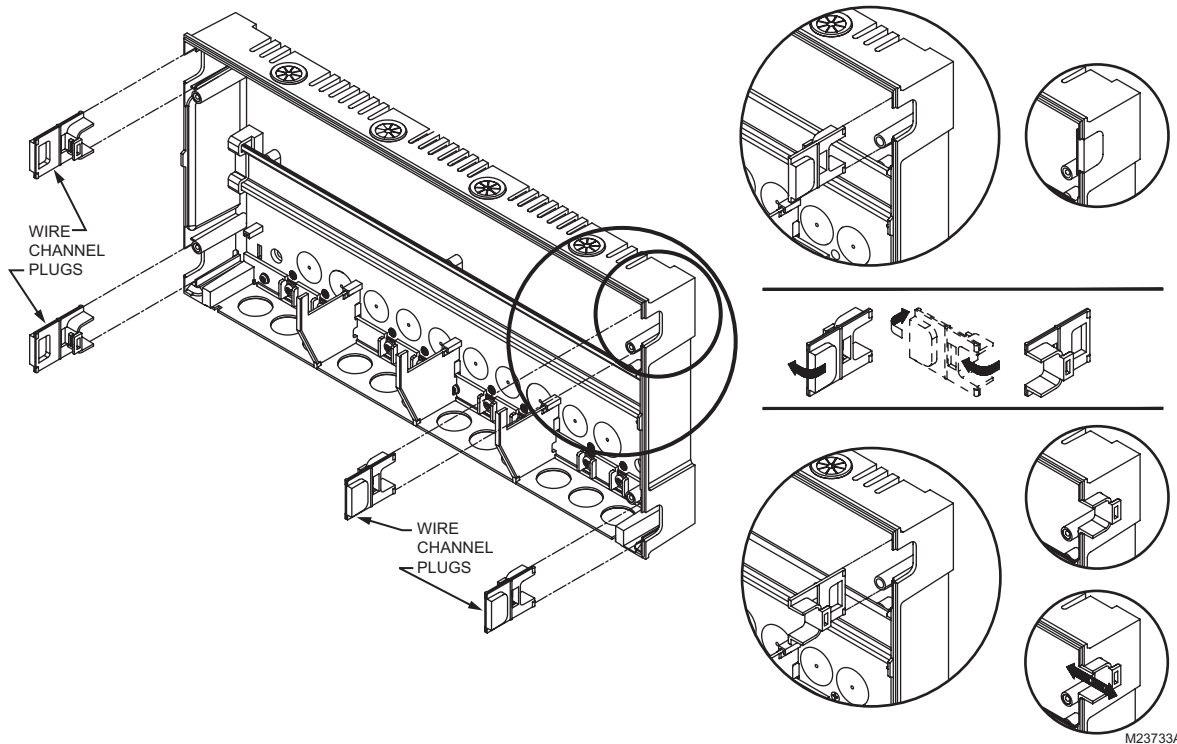

Fig. 3. Orientation of wire channel plugs for creating pass-through wire channel and for joining Control Panel to Expansion Zoning Panels.
1. Remove wire channel plugs from the AQ250 Control Panel and any Expansion Zoning Panels (see Fig. 3 on page 5).
3. Reverse wire channel plugs and re-insert them into their slot, to form a wiring channel between the Control Panel and the Expansion Zoning Panel (see Fig. 3 on page 5) and to connect the two panels together. steps 1–3.